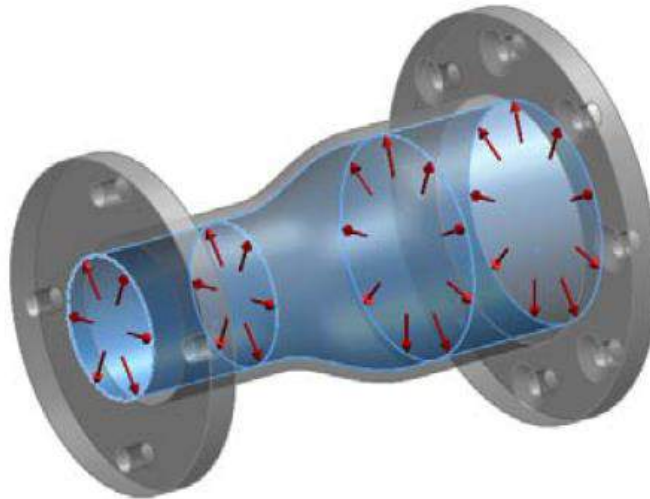

Figure 2: Pressure of 3500 psi on Pipe Reducer
- Apply an internal pressure of 3500 psi as shown in figure 2.